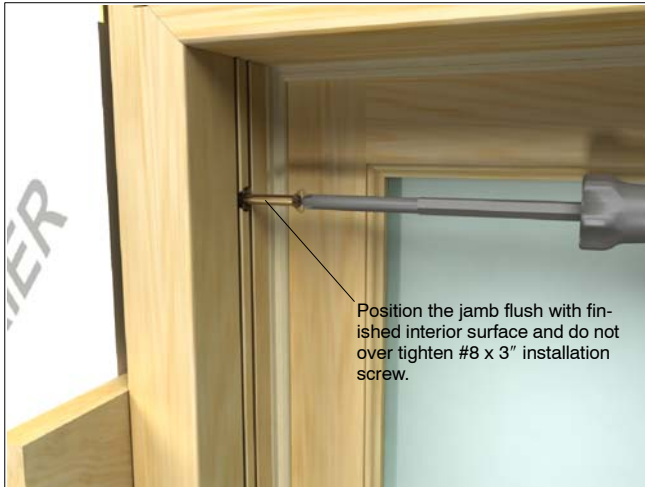

Figure 4: Fasten through top of side jambs
- From the interior, position one of the side jambs flush with the location of the interior wall surface, shim and install a supplied #8 x 3" installation screw through the top hole in the jamb. Do the same for the other side jamb. To avoid bowing the jambs do not over tighten the screws. See figure 4.